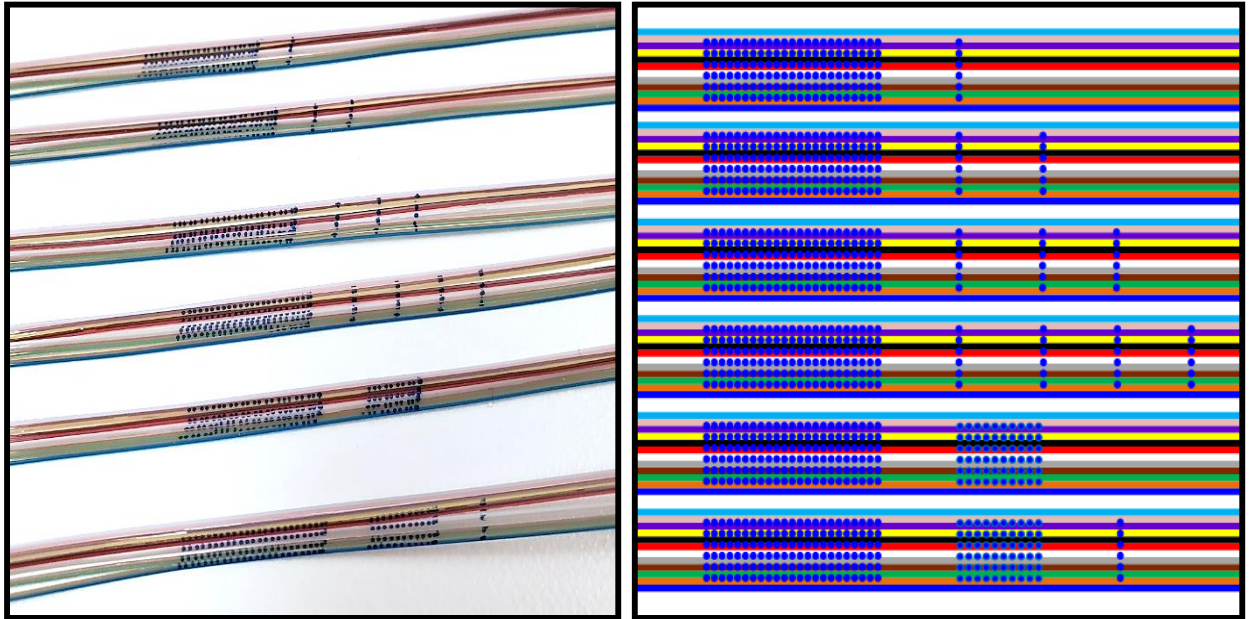

Figure 2
5.1 FP72PVx fiber bundles consist of 6 X 12-count pliable ribbons enclosed in a PVDF outer jacket. Each 12 fiber pliable ribbon is uniquely numbered. **(See Fig. 2)**